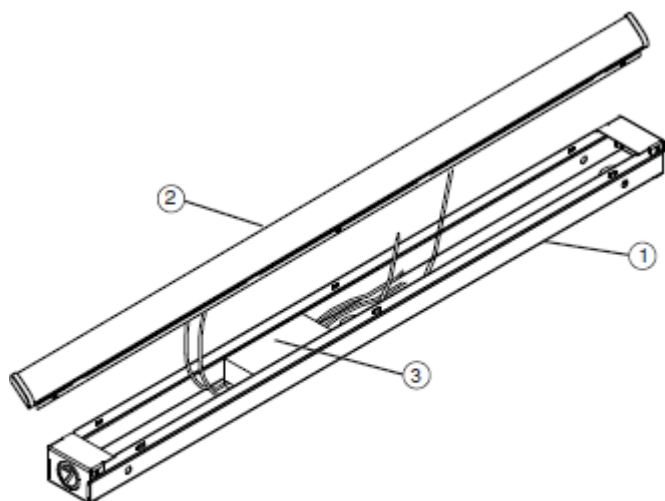

Figure 1
1. Remove fixture components and parts pack(s). Check that all parts are included. **See Fig. 1.**